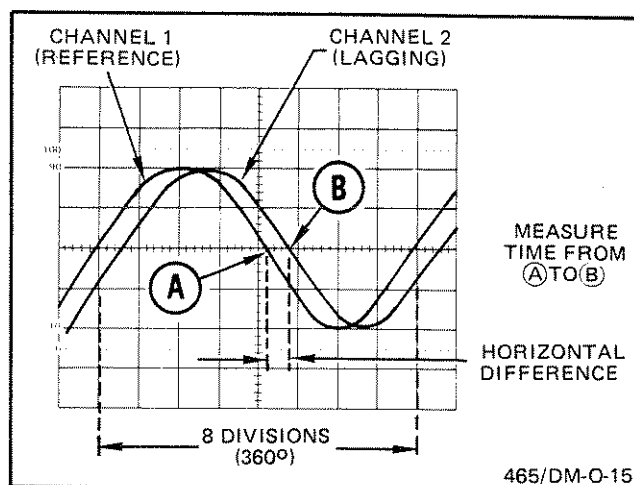
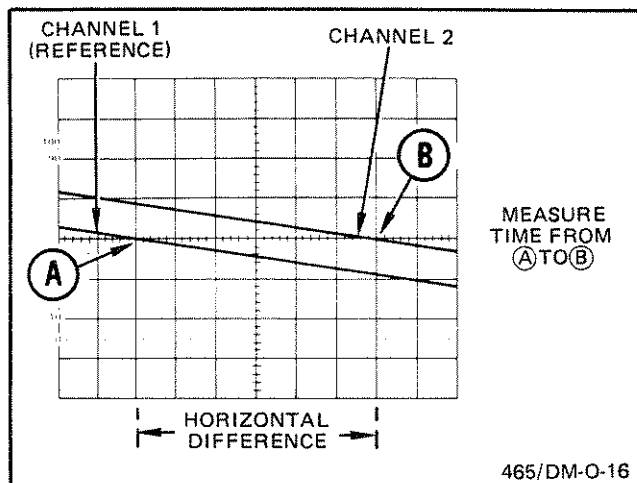

Figure 18. Phase difference.
Figure 19. High-resolution phase difference.
9. Position the displays and adjust the A and B SEC/DIV Variable control so that one reference-signal cycle occupies exactly 8 horizontal graticule divisions at the 50% rise-time points (see Figure 18). Each division of the graticule now represents 45° of the cycle ($360^\circ \div 8$ divisions), and the horizontal graticule calibration can be stated as 45° per division.
EXAMPLE: The horizontal difference is 0.6 division with a graticule calibration of 45° per division as shown in Figure 18.
EXAMPLE: If the sweep speed were increased 10 times with the magnifier (X10 Magnifier out), the magnified horizontal graticule calibration would be $45^\circ/\text{division}$ divided by 10 (or $4.5^\circ/\text{division}$). Figure 19 shows the same signals illustrated in Figure 18, but magnifying the displays results in a horizontal difference of 6 divisions between the two signals.